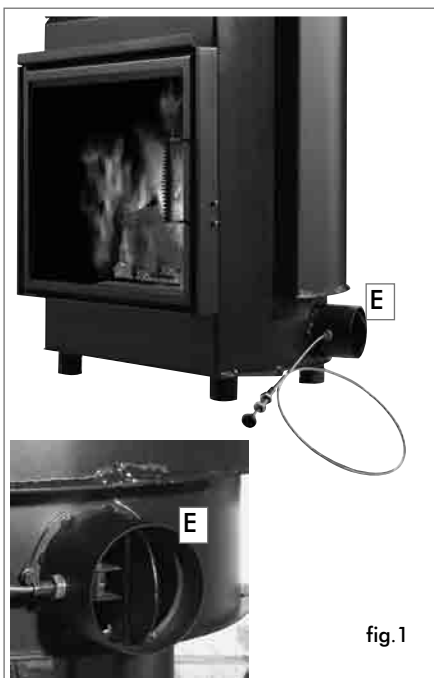

fig.1
- The damper control found on the external air inlet (refer to Fig. 1 on pag. 22), regulates the amount of primary air that is necessary for the combustion process. Pushing the knob will close the external air inlet and pulling the knob will open it.